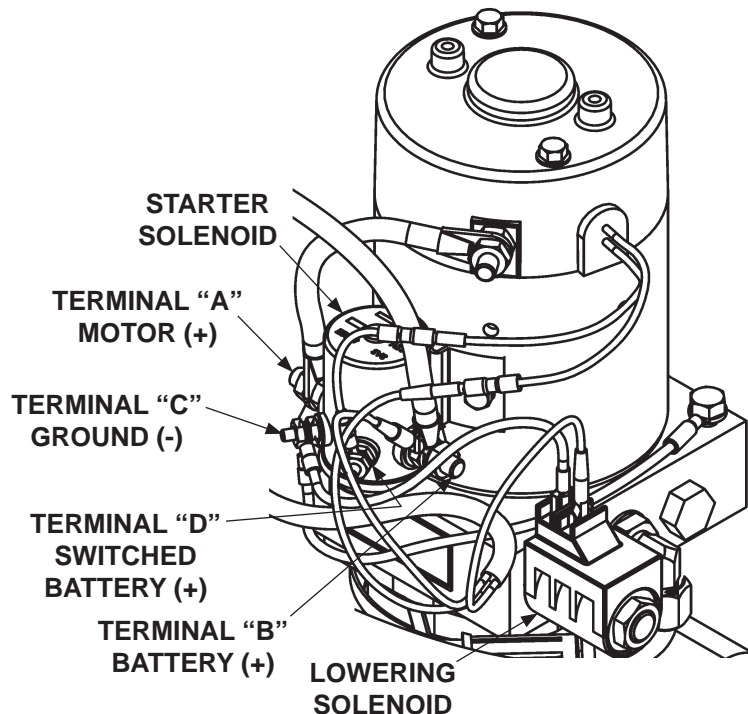

FIG. 46-1
1. Use voltmeter to verify power is being supplied to solenoid terminal "B" (FIG. 46-1). Recharge the battery if there is less than 12.6 volts.
3. Touch a jumper wire to terminals "B" & "D" (FIG. 46-1). If motor runs, check switch, switch connections, and white wire. Check and correct wiring connections or replace the switch.
4. Touch heavy jumper cables to terminals "A" & "B" (FIG. 46-1).